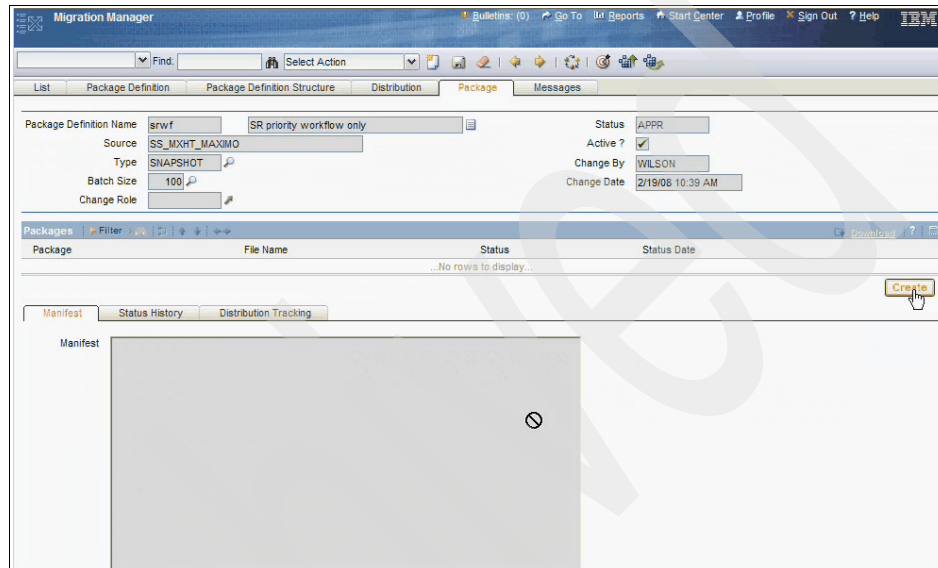

Figure 8-34 Create package
1. Select the **Package** tab and click the **Create** button in the Packages section, as shown in Figure 8-34.